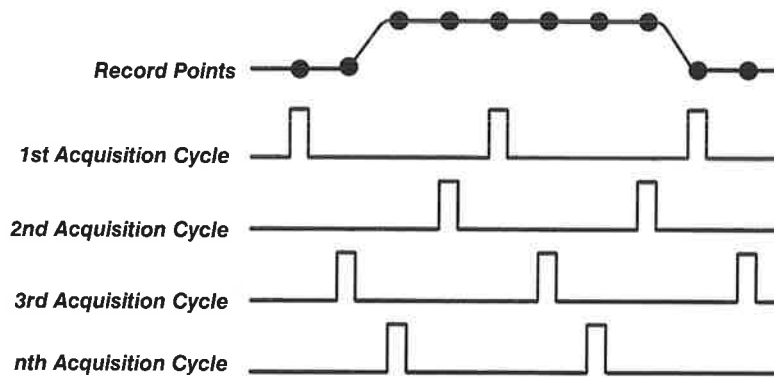

Figure 2-7: Equivalent-Time Sampling
In equivalent-time (ET) sampling the oscilloscope acquires samples over many repetitions of the event (Figure 2-7). It should only be used on repetitive signals.